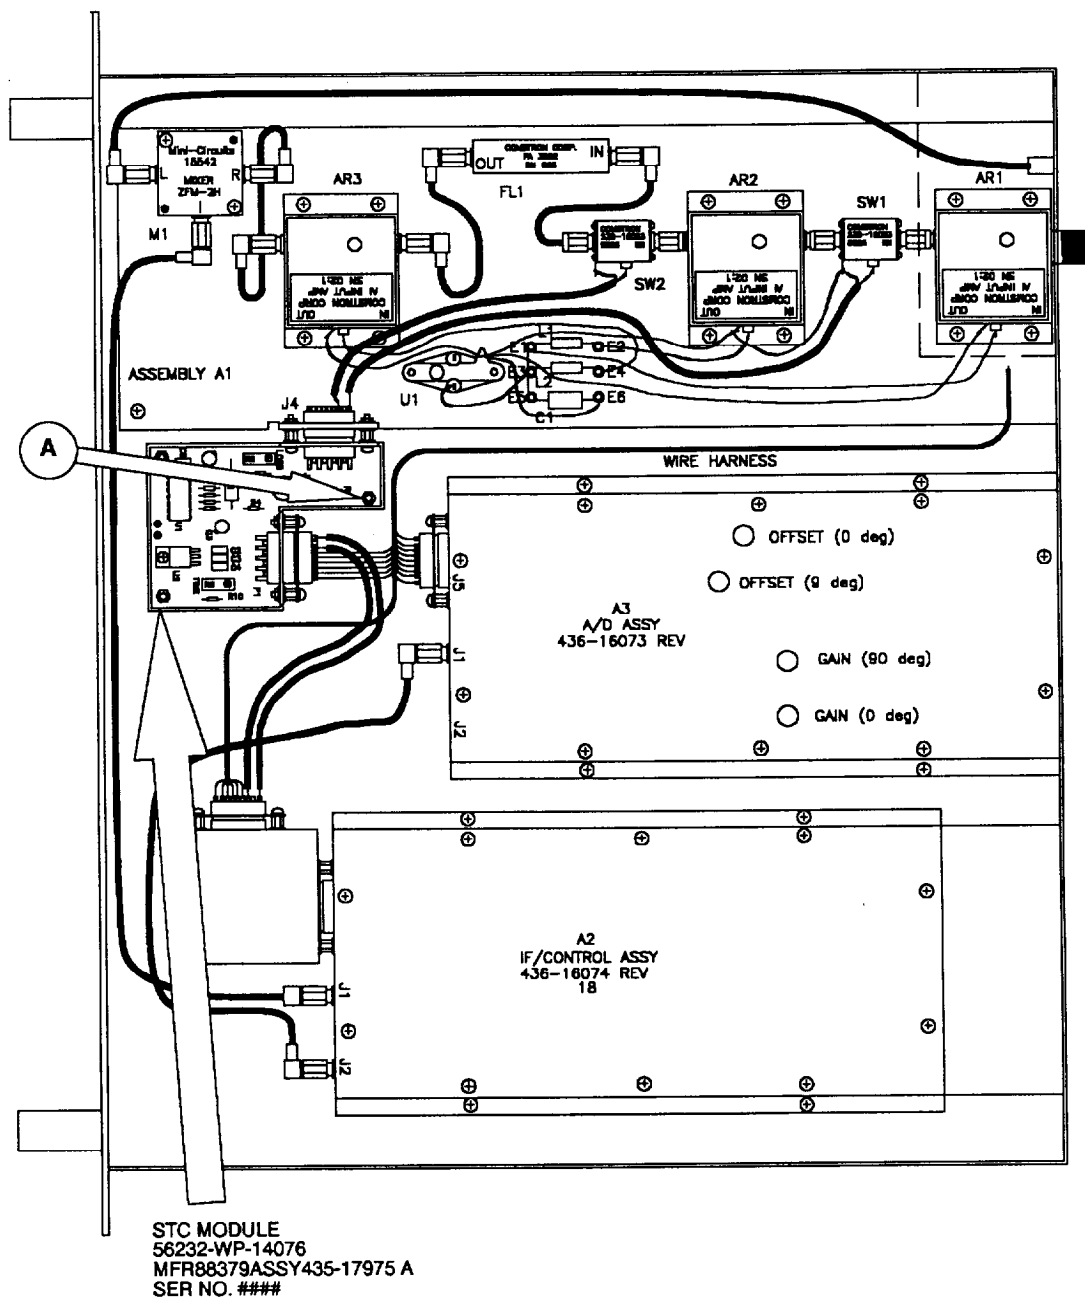

Figure 1
1. Call the Profiler Control Center (PCC) at (303) 497-6033 to tell them you are doing the modification.
5. Refer to figure 1. Disconnect the harness to J4 of assembly A1. Save the two #4-40 screws and washers. Do not stress the small wires at the connectors of the harness.
6. Remove the cover of the STC assembly. Remove the 3/16" hex post nearest to the J2 output connector. Refer to figure 1 point A for location of the hex post.
7. Mount the STC module as shown in figure 1. You may need to remove an adhesive-attached cable holder from the receiver chassis below the STC module. Removing the hex post will allow you to attach the STC module to J4 using a small Phillips screwdriver and needlenose pliers to hold the #4-40 screws. Replace the hex post in the STC module (point A in figure 1).